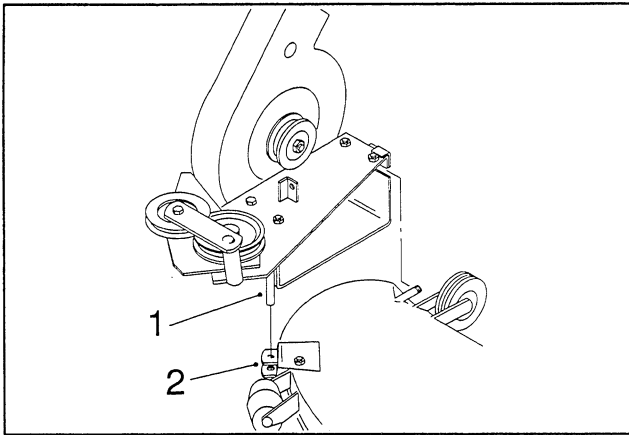

Figure 3
1. Install the blower assembly by inserting the pivot pin into the blower pivot support (Fig. 3).